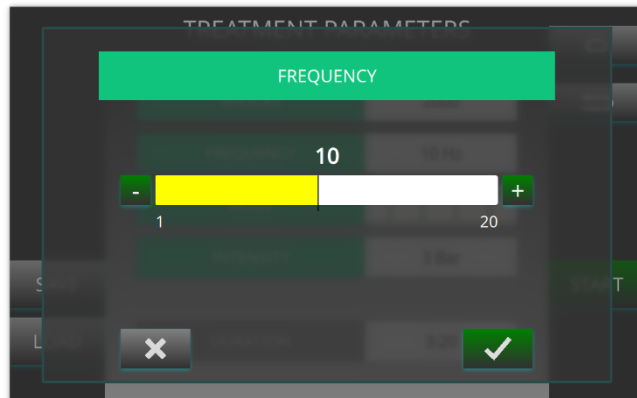

fig.5
3. For the FREQUENCY (Hz) parameter, increase or decrease the value using the + or - buttons or by scrolling the cursor to the right or left until the desired value is reached (figure 5). It is possible to vary the FREQUENCY parameter between 1 and 20 Hz.